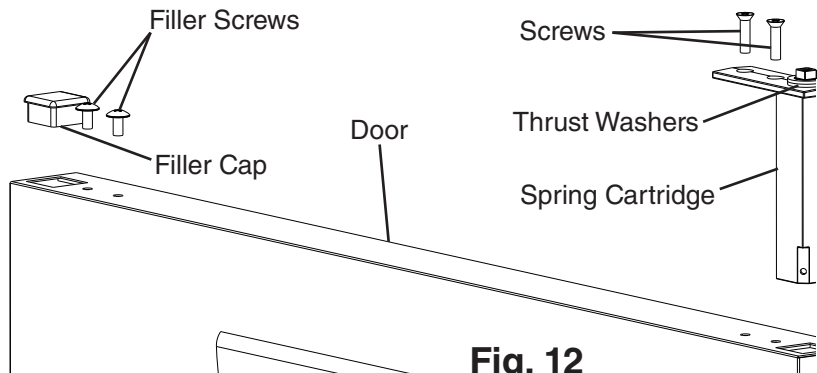

**Fig. 12**
- 8) Remove the filler cap, filler screws, and spring cartridge. See Fig. 12. Leave the thrust washers in place on the spring cartridge. **NOTICE! Spring cartridge may be difficult to remove. Be careful not to damage the finish.**